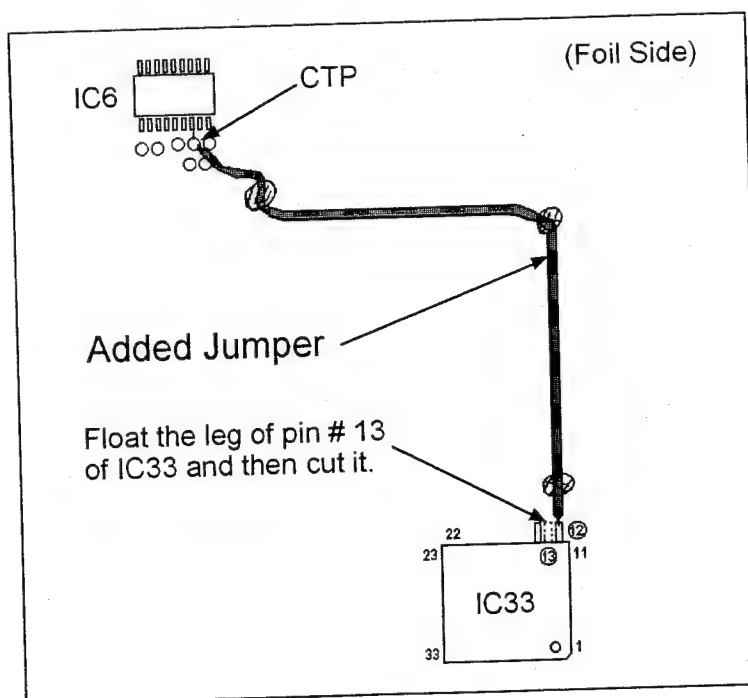

Fig. 1
- 1). Float the leg of pin #13 of IC33 and then cut it on the foil side as shown in figure 1.
- 2). Connect a jumper wire between pin # 12 of IC33 and the CTP land (near pin #12 of IC6) on the foil side as shown in figure 1.